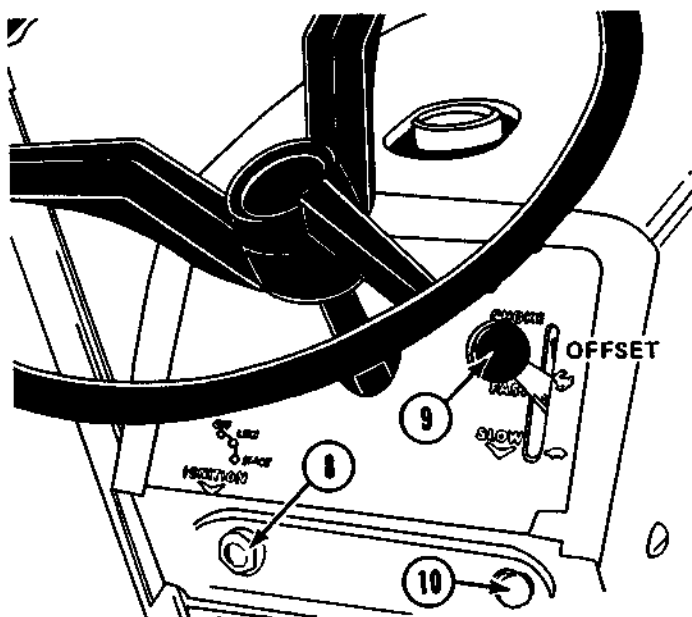

Figure 6
IGNITION AND STARTER SWITCH – Figure 6
THROTTLE-CHOKE CONTROL LEVER – Figure 6
LIGHT SWITCH (Optional) – (Figure 6)
5. Raise throttle choke control lever **9** Figure 6, past the offset in the slot to the "choke" position.
6. Turn ignition key **8** shown in Figure 6 clockwise all the way. Release key as soon as the engine starts and gradually lower the throttle-choke control lever past the offset until the engine runs at $\frac{1}{2}$ throttle.